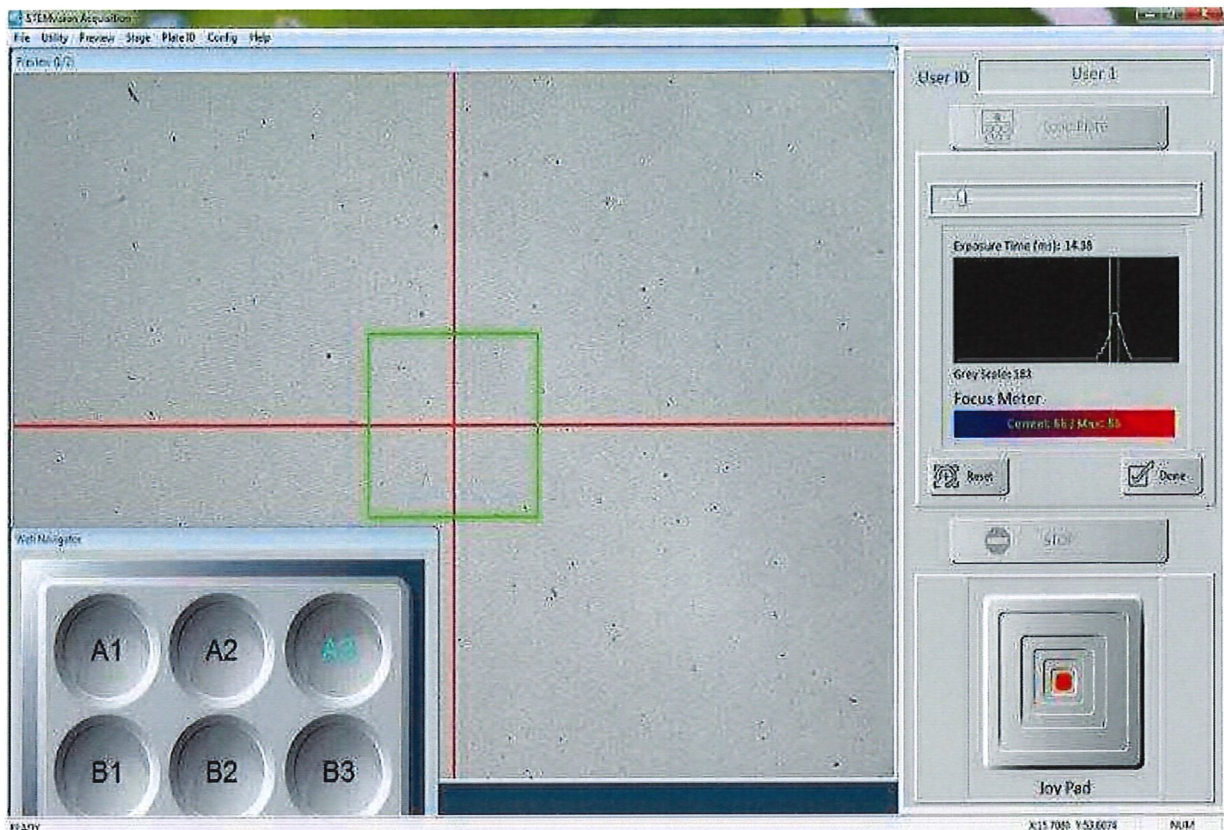

Figure 3
- 8.5.3.1 Use the Joy Pad to find a location in the well that does not contain any colonies. See *Figure 3*.
- 8.5.3.2 Use the top slider bar to adjust the "Exposure Time" so that the peak of the exposure graph falls between the two vertical yellow lines and the "Grey Scale" value reads between 180 and 190. See *Figure 3*.